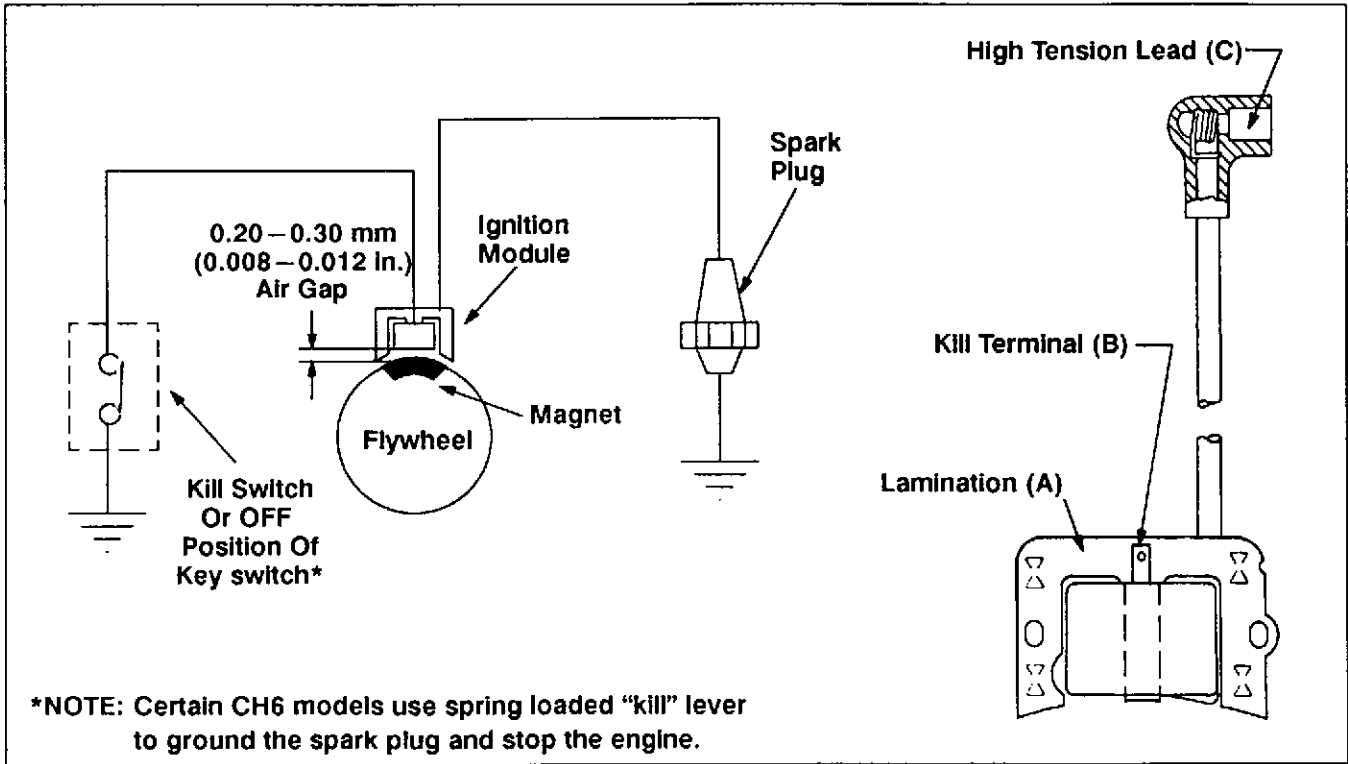

Figure 8-2. Electronic Magneto Ignition System.
4. Measure the resistance of module secondary using an ohmmeter (see Figures 8-2 and 8-3): Connect one ohmmeter lead to laminations (A). Connect the other lead to the spark plug terminal of high-tension lead (C). With the ohmmeter leads connected in this manner, the resistance of secondary should be 7,900 to 10,850 ohms . NOTE: This test cannot be performed unless module has been fired at least once.	If the resistance is low or 0 ohms , the module secondary is shorted. Replace the module. If the resistance is high or infinity ohms , the module secondary is open. Replace the module. If the resistance is within the specified range, the module secondary is OK.